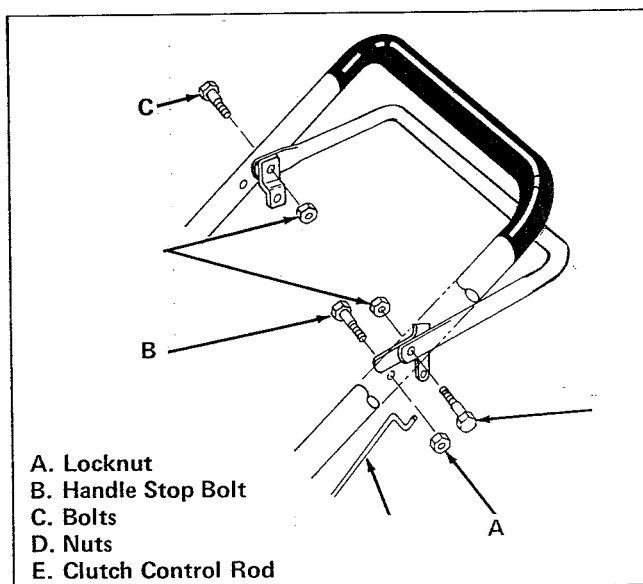

Figure 43. Reversing Touch-a-matic Control Bar
4. To reinstall, reverse as shown in figure 43.
5. Install locknut (item A, figure 43) on handle stop bolt (item B).